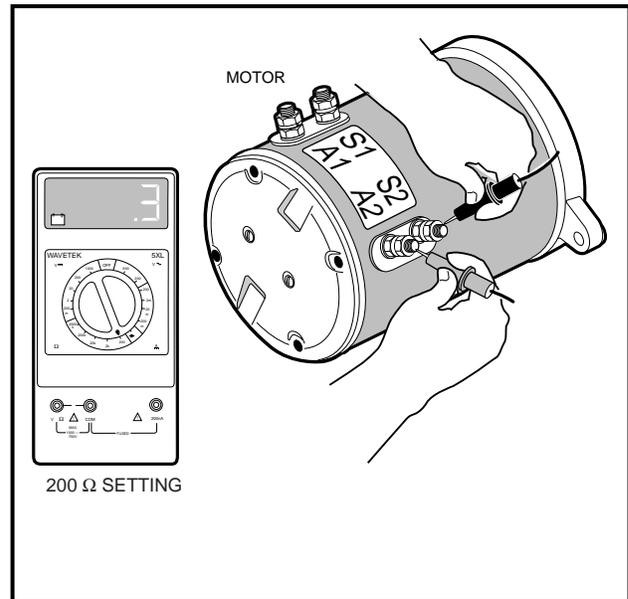

Figure 11-18 Test F&R Continuity (Reverse Position)
2. With Forward/Reverse handle in FORWARD, place red (+) probe on A2 motor terminal, and place the black (-) probe on the S2 motor terminal. Meter should indicate continuity (**Figure 11-18, Page 11-15**).